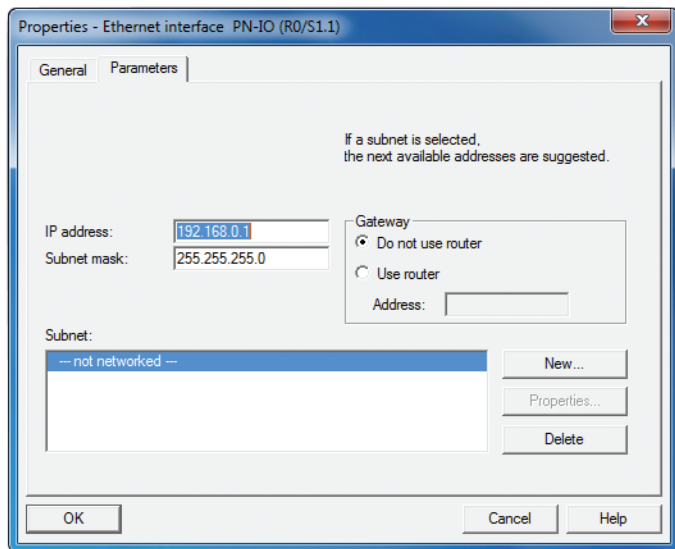
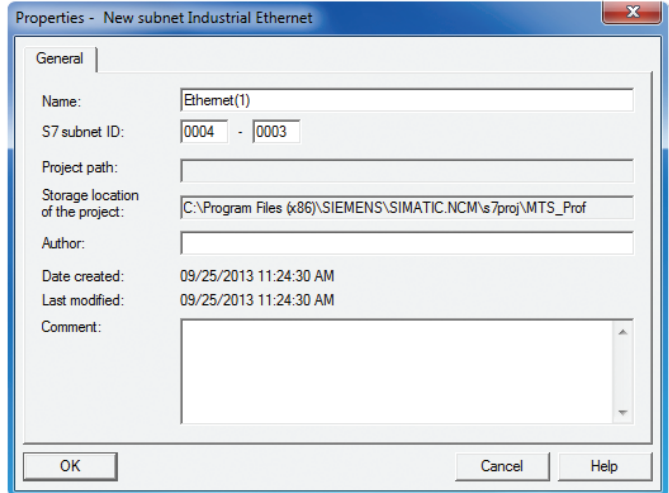

Fig. 31: Set IP adress of CP1616 (source: Siemens)
Fig. 32: Create a subnet (source: Siemens)
Select the appropriate firmware version of your CP1616. The dialog box “Properties – Ethernet interface” opens (Fig. 31). Set the IP address of your CP1616.
6. To create a subnet, click button “New” (Fig. 31). Window “Properties – New subnet” opens (Fig. 32). Define a name and press “OK” to confirm your entry.